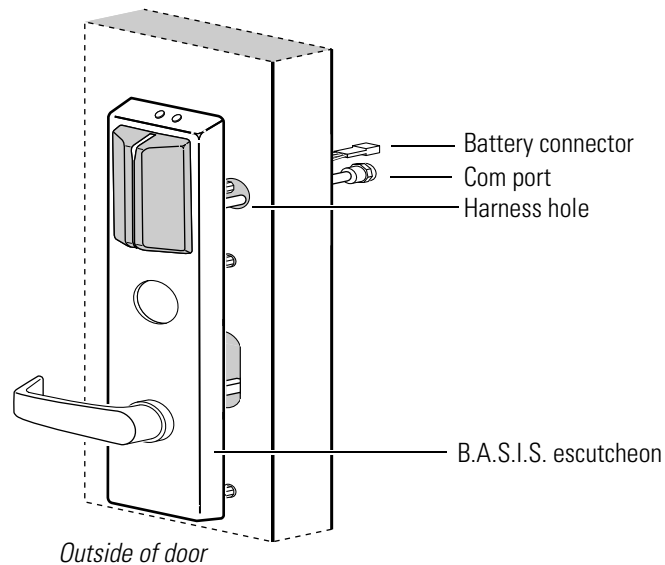

Figure 8.10 Removing and reinstalling the escutcheon
3. From the outside of the door, feed the com port and battery connector through the harness hole as shown in Figure 8.10.